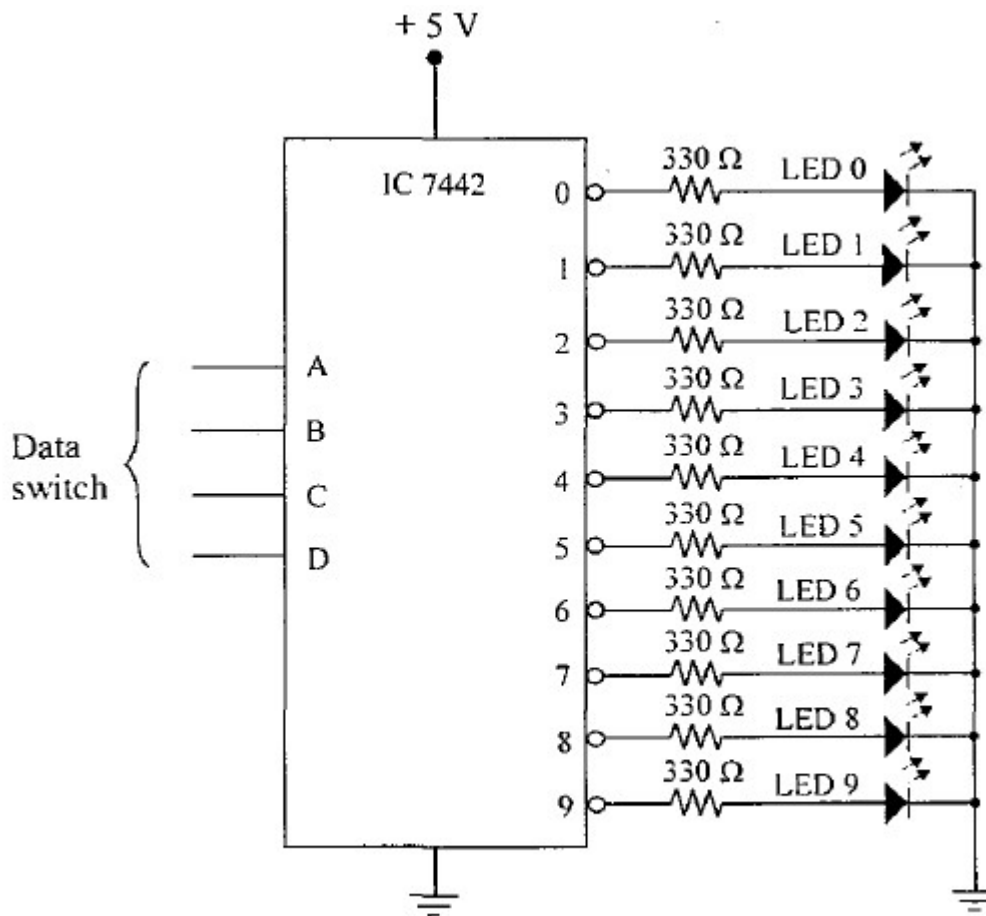

Figure 1.1
1. Built the circuit shown in Figure 1.1. Connect input A, B, C and D to data switch, then connect the outputs to LEDs.